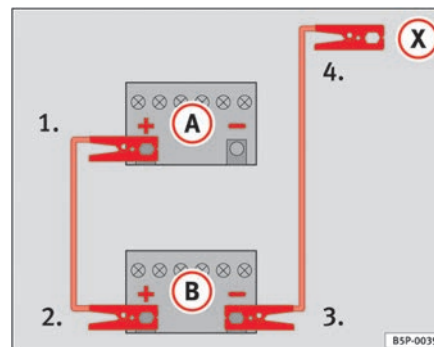

Fig. 172 How to connect the jump leads
In ⇒ fig. 172, the flat battery is (A) and the charged battery (B).
- 1. Connect one end of the red jump lead to the positive ⇒ fig. 172 (+) terminal of the vehicle with the flat battery ⇒ ⚠.